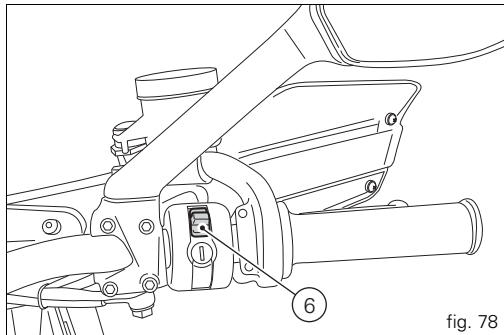

fig. 78
Key-Off is done using the button (6, fig. 78) on the handlebar on the right switch or using the emergency button (7) on the Hands free lock (1, fig. 78).